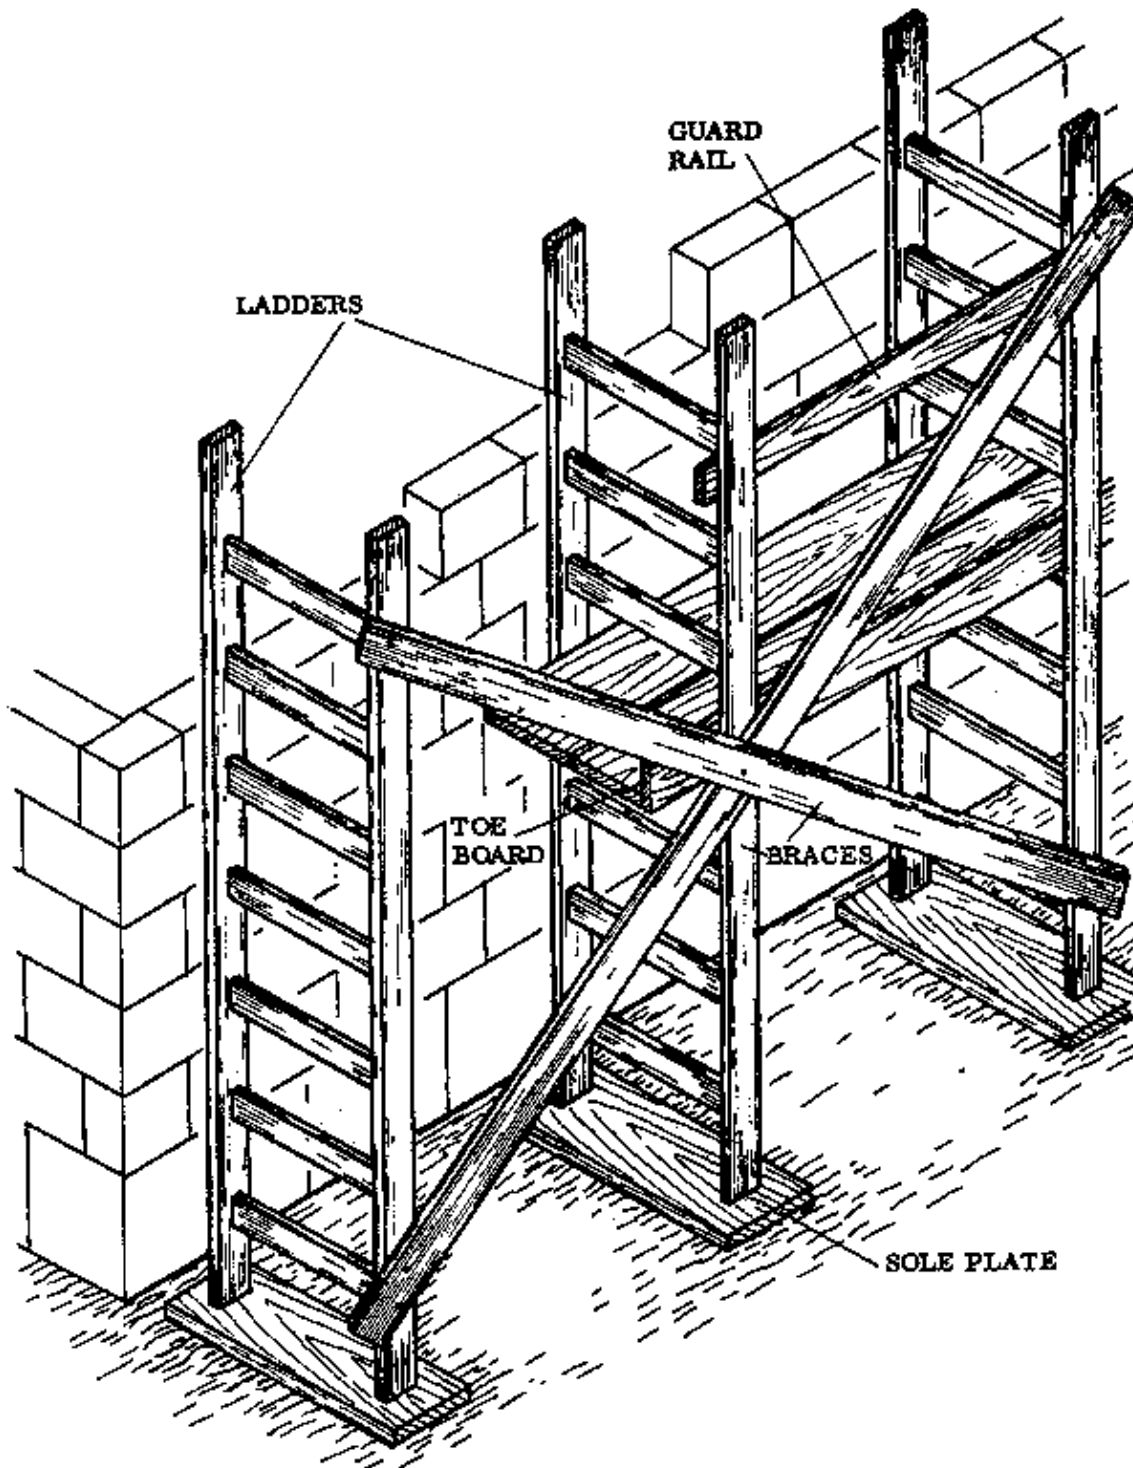

Fig. 1
– MEMBERS OF THE SCAFFOLD: (see Fig. 1)